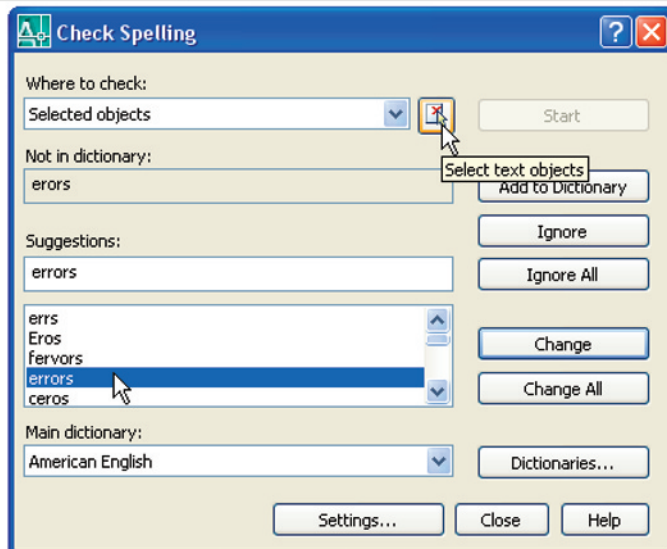
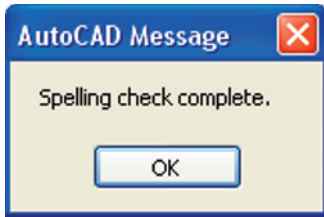

Fig. 6.40 Second example – the **Check Spelling** dialog
Fig. 6.41 The **AutoCAD Message** window showing that spelling check is complete
Second example – the Spelling tool (Fig. 6.40)
1. *Enter* some badly spelt text as indicated in Fig. 6.40.
3. The **Check Spelling** dialog appears (Fig. 6.40). In the **Where to check** field select **Selected objects** from the field's popup list, followed by a *click* on the **Select text Objects** button. *Click* the badly spelt text and *left-click* followed by a *right-click*. The **Check Spelling** dialog appears (Fig. 6.40). Wrongly spelt words appear in the **Not in dictionary** field with words to replace them listed in the **Suggestions** field. Select the appropriate correct spelling as shown. Continue until all text is checked. When completely checked an **AutoCAD Message** window appears (Fig. 6.41).